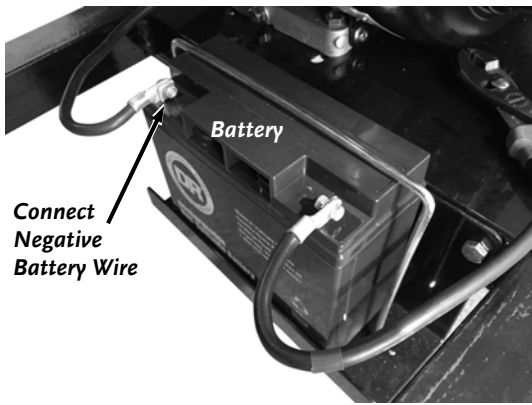

Figure 8
1. Secure the Negative Wire to the Negative Terminal on the Battery using two 5/16" Wrenches (**Figure 8**).